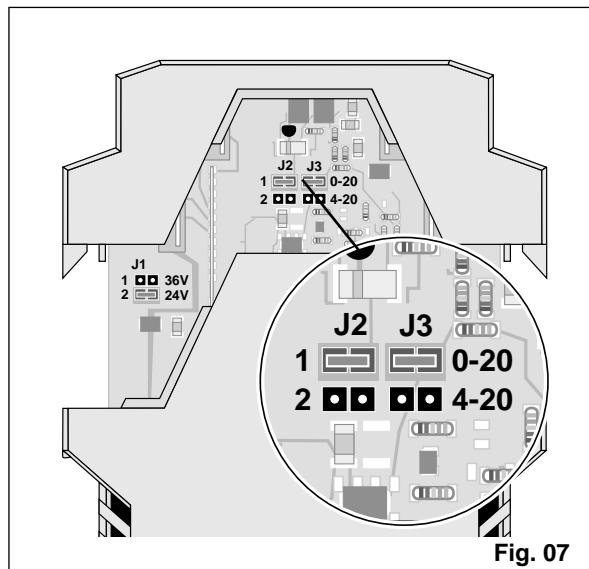
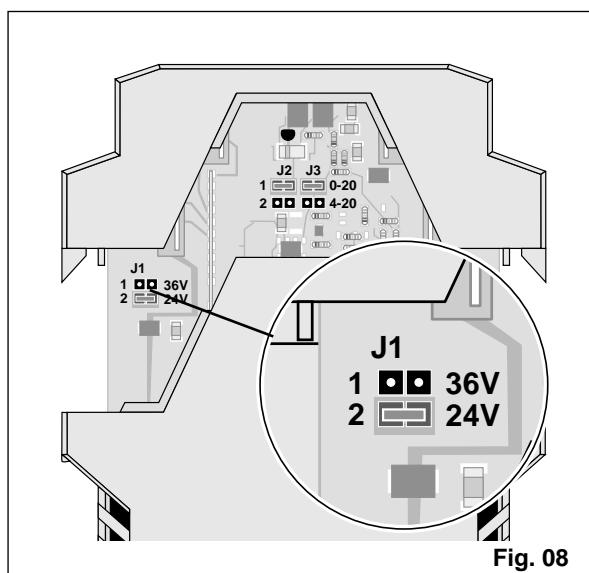

Fig. 07
Fig. 08
Selecting the input voltage range (see also Fig. 08)
5.2. Jumper Setting (Fig. 07/08)
Insert the jumpers in the desired positions to set the input voltage (Fig. 08) and current output (Fig. 07).
Selecting the standard output signal (Fig. 07)